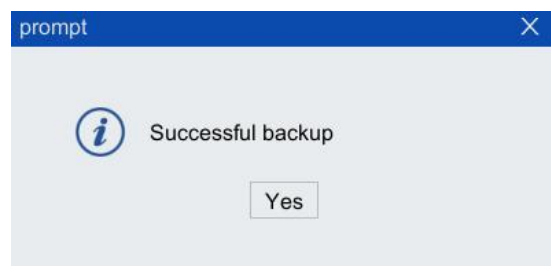

Figure 7-5 "Backup Succeeded" dialog box
- Step2. Then select the position to save. By default, it is saved in "Local TP" (that is, saved to "Backup" folder of the teach pendant). The user can also save it to "USB" (the root directory of USB on the teach pendant), click <Yes> button, "Backup Succeeded" dialog box in Figure 7-5 will pop up, as shown in . Then click <Yes> button to complete the backup.